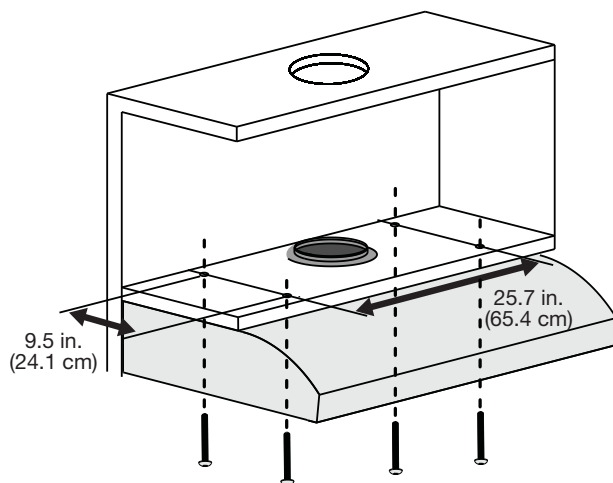

Figure 18
- Mark or drill four small holes on the mounting position according to the space and dimensions cited on the following images (Figure 18 or 20).
- The following drawings show the mounting dimensions of the 30 in. (75 cm). See Figure 18 or 20.